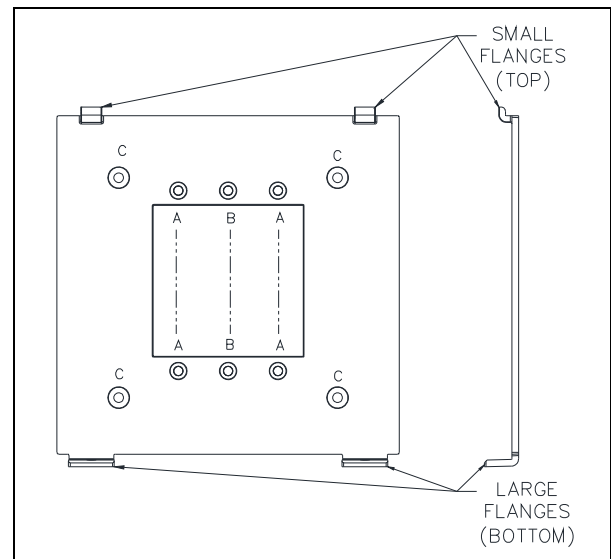

Figure 3. Smart Controller Wall-Mount Bracket
1. Orient the wall-mount bracket (see Figure 3) over the electrical box with the small flanges on top and the large flanges on the bottom.
2. Mark the locations (C) for the four wall anchors or toggle bolts (not included) and the area in the center of the bracket where the cable(s) will come through the wall using the support bracket as a template (see Figure 3).